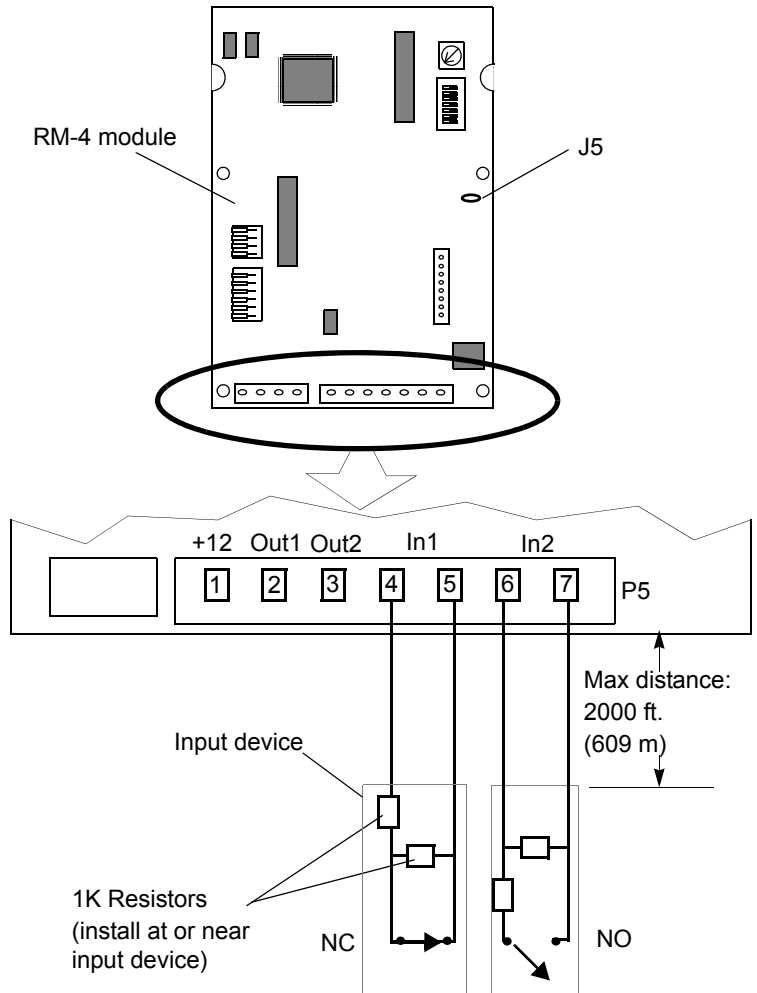

Figure 3.7: Wiring Setup for Supervised Inputs
Figure 3.7 shows typical supervised input wiring, and provides an example of wiring for Normally Closed (NC) and Normally Open (NO) wiring using 1K Ohm resistors (install the resistors near the switch).